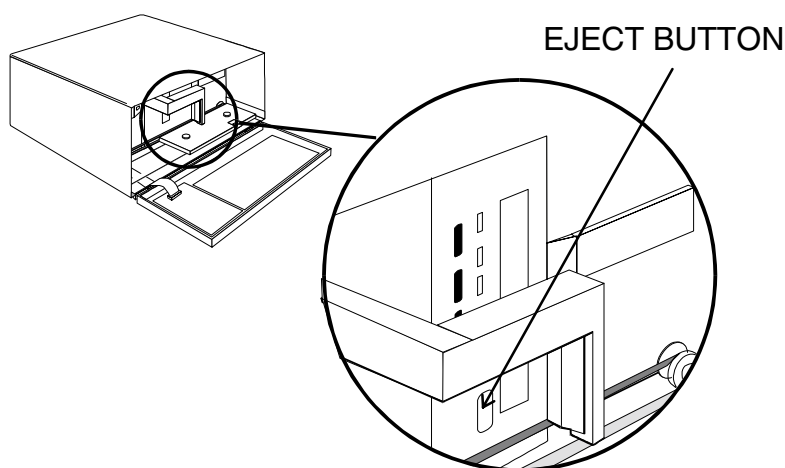

Figure 12. Drive Eject Button.
- ☐ Press the eject button on the drive (see Figure 12). It may take 30 seconds or more for the drive to eject the cassette.
- ☐ Press the eject button on the drive (see Figure 12).
- ☐ If the drive does not eject the cassette when the program is finished, open the VLS door (the gripper arm should still be fully extended) and press the drive eject button (refer back to Figure 12 if necessary). It will take about 30 seconds for the drive to eject the cassette.